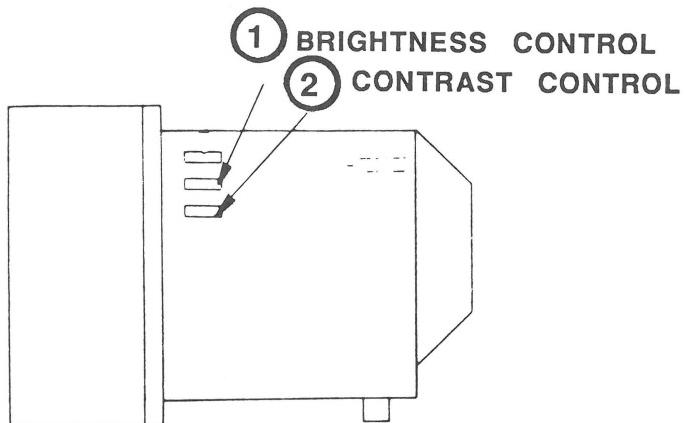

FIGURE 2
8. Adjust the monitor's BRIGHTNESS control (Figure 2, #1) to its detent (click) position.
9. Adjust the monitor's CONTRAST control (Figure 2, #2) to its maximum clockwise position.